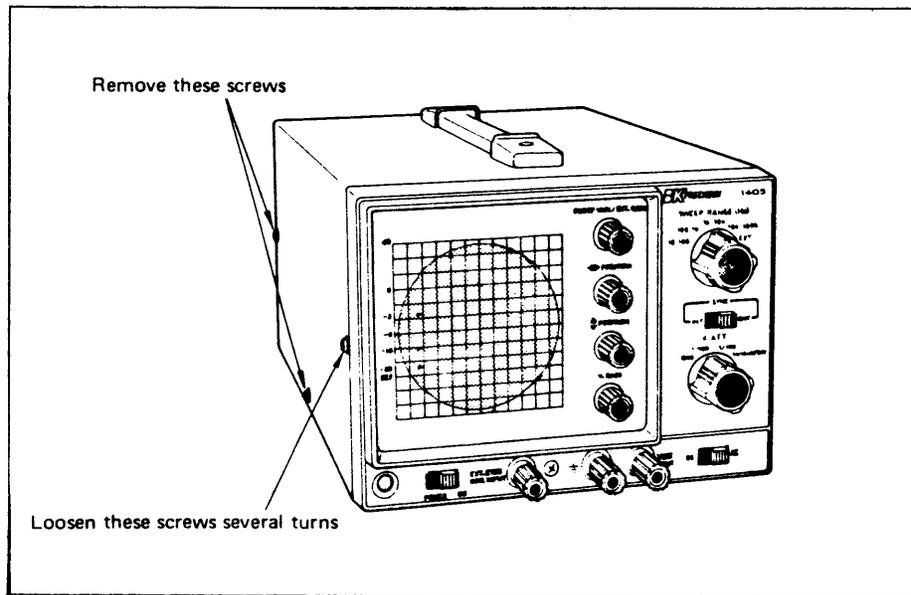

Fig. 10. Case Removal.
1. Refer to Fig. 10. Remove two screws from each side of the case as shown.